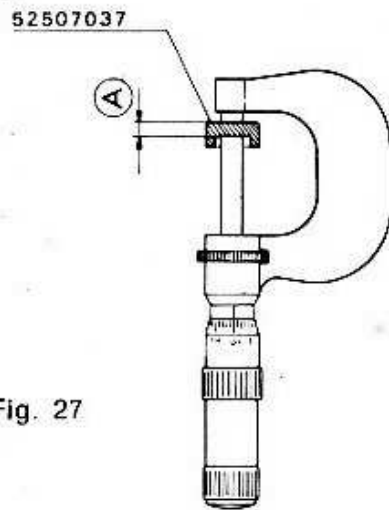
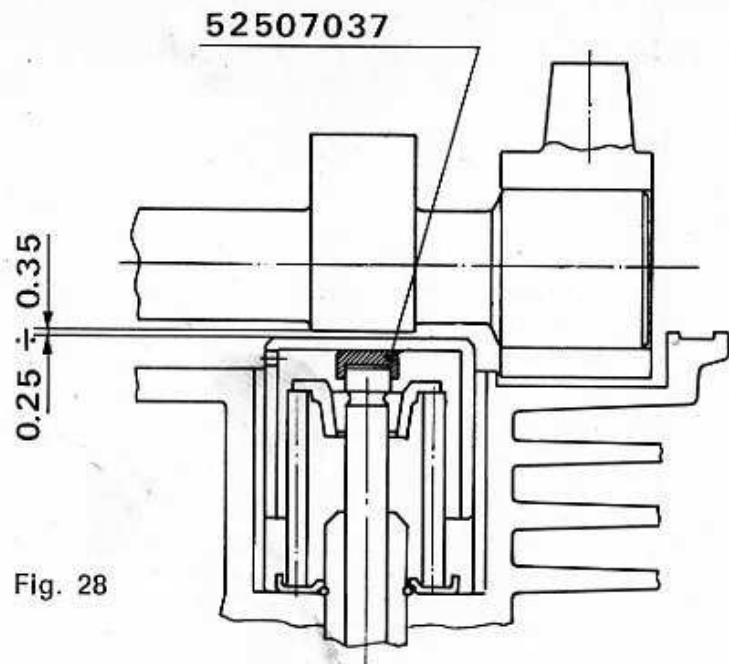

Fig. 27
Fig. 28
- 4) Remove the camfollowers and measure the thickness of the valve cap shim with a micrometer (fig. 27). By comparing the actual valve clearance with the correct one, 0,20 - 0,30 mm (0.008 - 0.012 in.), you can now calculate what thickness of shim you need to obtain correct clearance (see fig. 28).